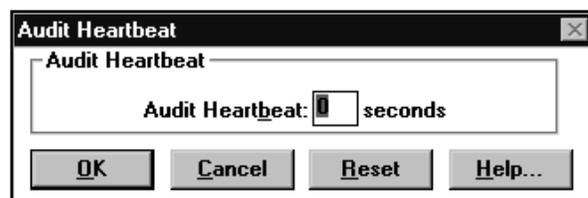

FIGURE 94. Example of Audit Heartbeat dialog box
1. To set the number of seconds the datalink (a component in the IWS Billing application) waits for a response from the CCDB, select Audit Heartbeat in the configuration window. (See Figure 94.)